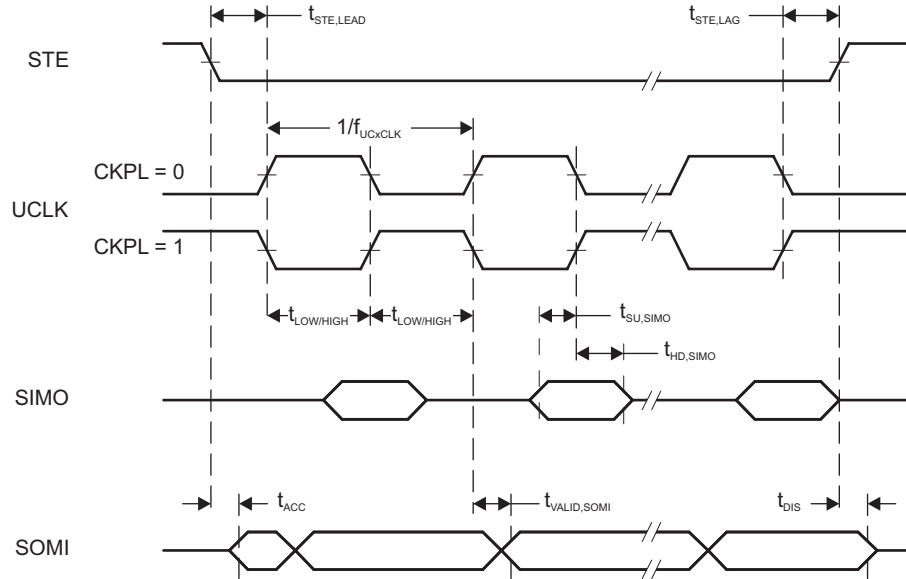
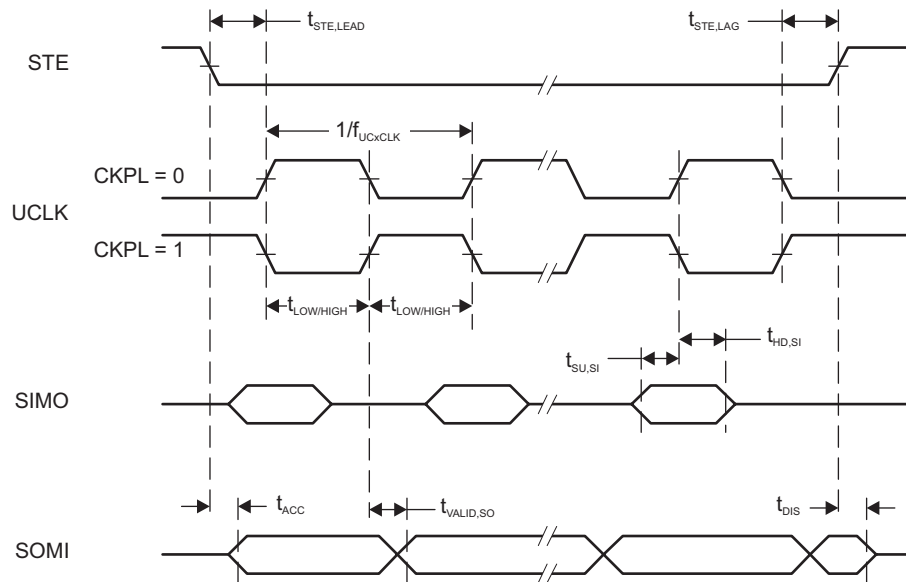

Figure 5-25. SPI Slave Mode, CKPH = 0
Figure 5-26. SPI Slave Mode, CKPH = 1
over recommended ranges of supply voltage and operating free-air temperature (unless otherwise noted)(1) (see Figure 5-25 and Figure 5-26)
- (2) Specifies the time to drive the next valid data to the SOMI output after the output changing UCLK clock edge. See the timing diagrams in Figure 5-25 and Figure 5-26.
- (3) Specifies how long data on the SOMI output is valid after the output changing UCLK clock edge. See the timing diagrams in Figure 5-25 and Figure 5-26.